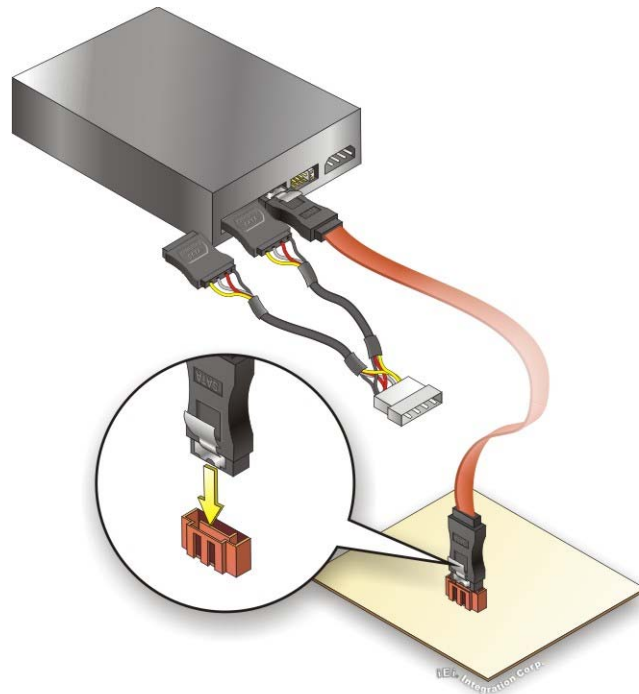

Figure 4-13: SATA Power Drive Connection
**Step 3:** **Connect the cable to the SATA disk.** Connect the connector on the other end of the cable to the connector at the back of the SATA drive. See **Figure 4-13**.
**Step 4:** **Connect the SATA power cable (optional).** Connect the SATA power connector to the back of the SATA drive. See **Figure 4-13**.